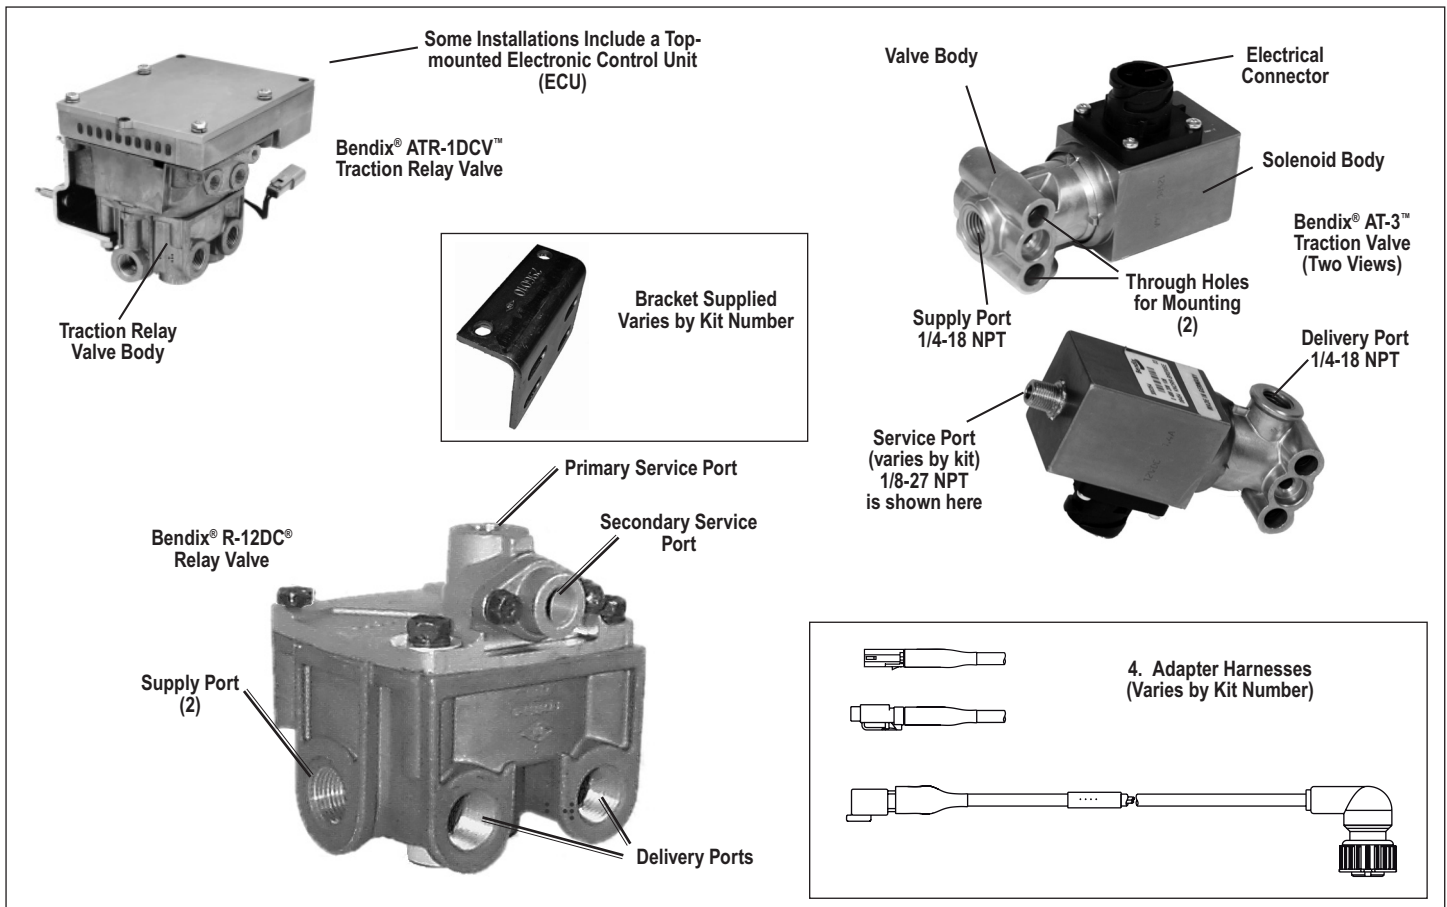

FIGURE 1 - BENDIX® ATR-1DCV™ TRACTION RELAY VALVE REPLACEMENT KIT
5. Remove the mounting hardware bolts and then remove the Electronic Control Unit (ECU) from the valve, if so equipped. (See Figure 1).